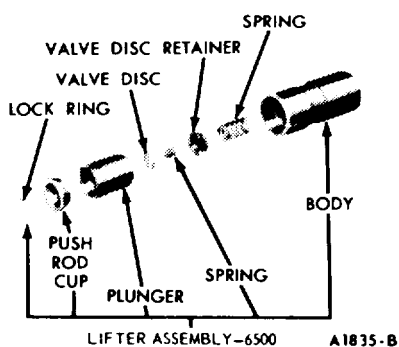

FIG. 59 Typical Valve Lifter Assembly
A typical hydraulic valve lifter assembly is shown in Figure 59.
2. Compress the valve springs (Figure 59). Remove the valve retainer locks and release the spring. If the valve locks are stuck, place a piece of steel tubing ( $\frac{3}{4}$  inch OD,  $\frac{1}{2}$  inch ID and 3 inches long) over the end of the valve stem squarely against the sleeve surface. Tap the tube with a steel hammer to disengage the locks.